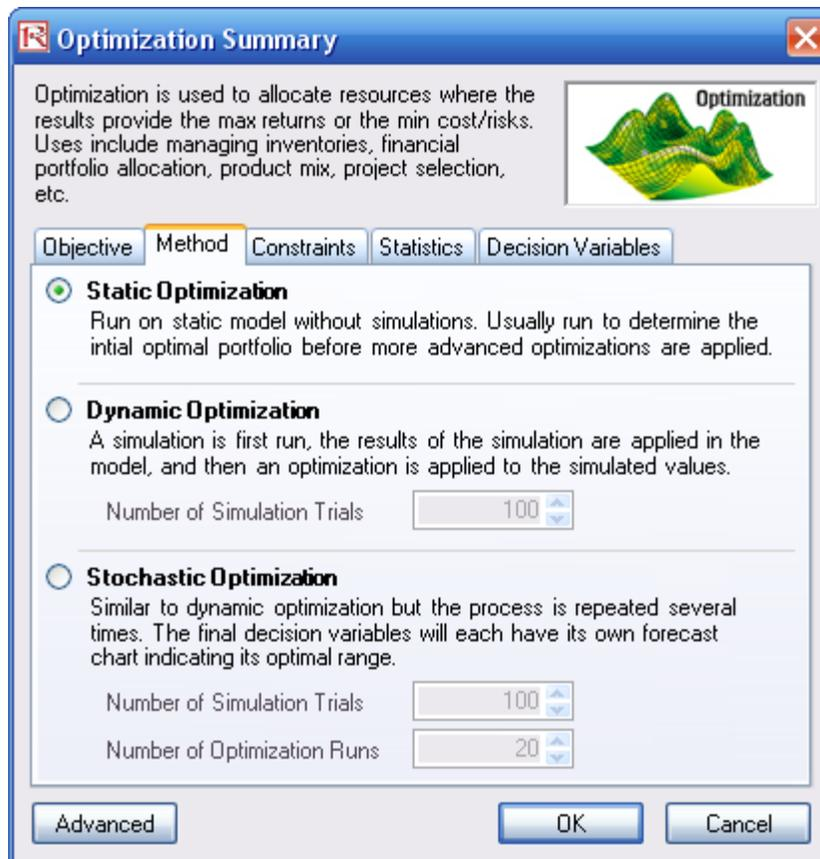

Figure 7: Optimization run
5. Prepare to run the optimization. Click on the **Run Optimization** icon or **Risk Simulator | Optimization | Run Optimization** (Figure 7).